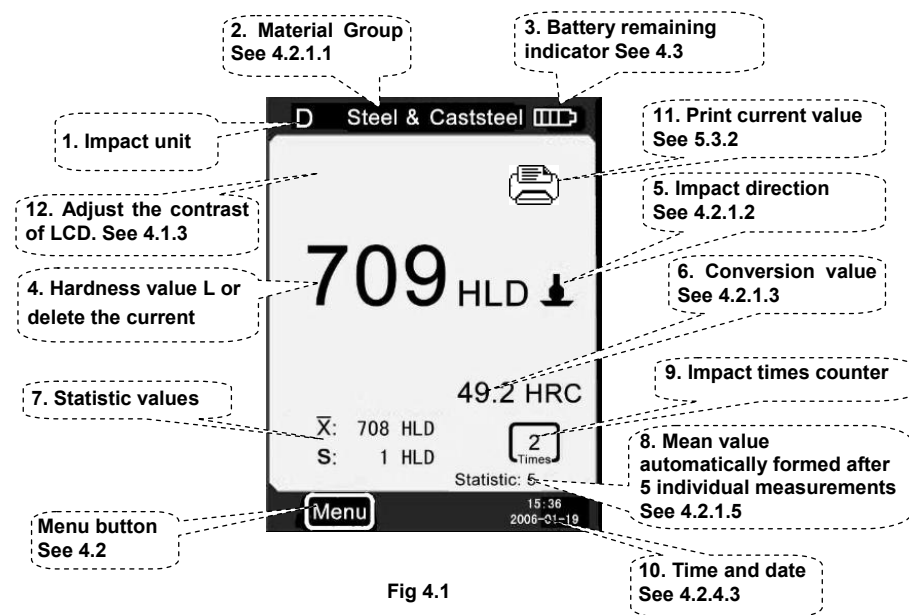

Fig 4.1
4.1.2 Measure Mode (Fig 4.1)
Click the icon “D” in the upper left corner of Fig 4.1 to change the type of impact device. This instrument has two options about the impact unit: D-type impact unit, G-type impact unit. If you need other types, please contact the dealer.